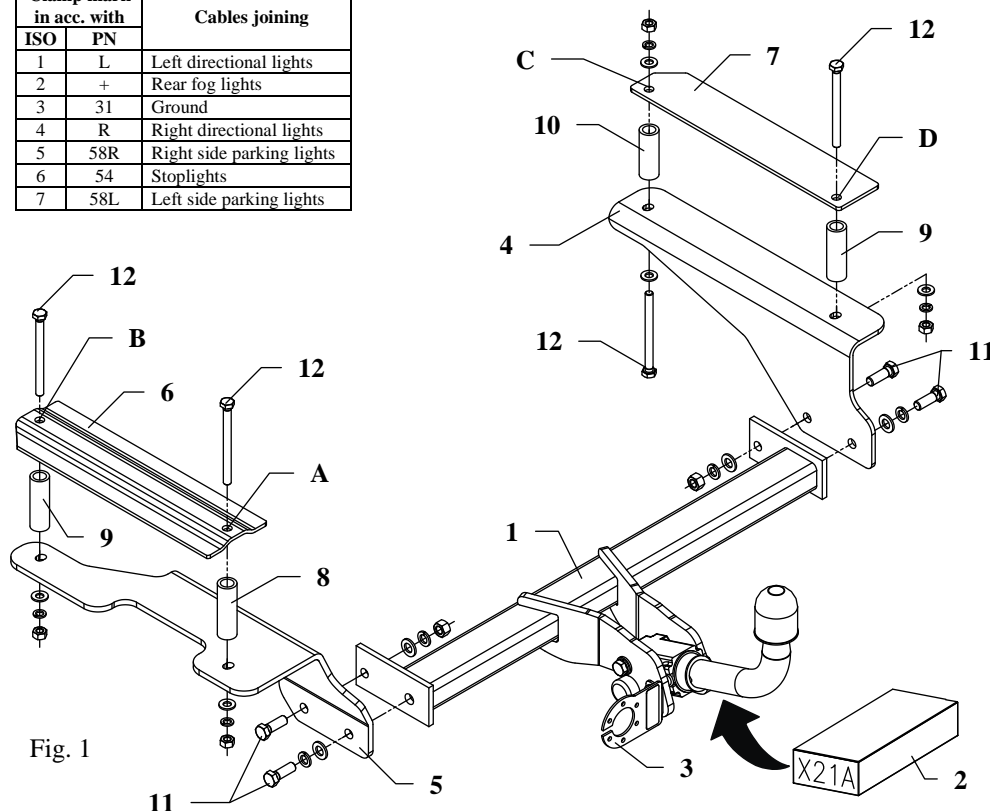
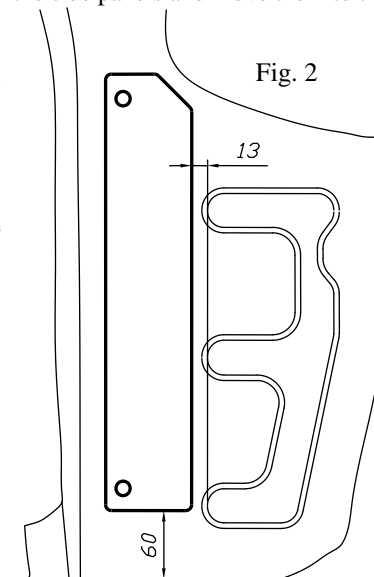

Fig. 1
Fig. 2
6. Place fish-plate (pos. 6) on the hole A.
7. Drill hole $\varnothing 11\text{mm}$ in point B through fish-plate (pos. 6) in the floor.
8. Place fish-plate (pos. 7) on the right side, as one showed on the fig. 2 and drill holes $\varnothing 11\text{mm}$ in points C and D. Make sure that the holes to be drilled match the holes on the underside of the chassis.
9. Remove fish-plates (pos. 6 and 7) and enlarge the holes from inside the boot only to $\varnothing 30\text{mm}$.
11. Place fish-plates (pos. 6 and 7) with three bolts M10x120mm (pos. 12) in combination with the distance sleeves (pos. 8, 9, 10) – see fig. 1.
12. Place left bracket (pos. 5) in points A and B and fix loosely.
13. Place right bracket (pos. 4) in points C and D with the fourth bolt M10x120mm (pos. 12) and fix loosely.
14. Fix the main bar of the towing hitch (pos. 1) using bolts M12x35mm (pos. 11).
15. Fix body of the automat and place tow-ball according to supplied instruction. Note! Remember to place socket plate (pos. 3) as shown on the drawing 1.